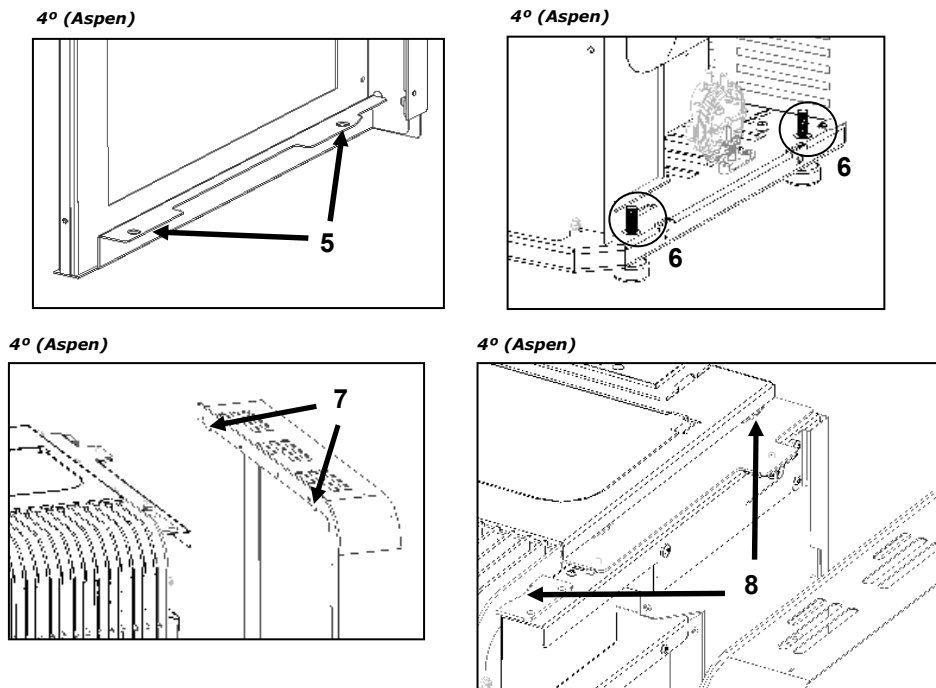

Figure 39 - Assembly of the Aspen covers
h) On the **Aspen** equipment, first fit the lower holes **5** of the side covers into the guides **6** at the bottom of the machine, then in the downward direction to fit the tabs **7** in the slots **8**, as shown in Figure 39.